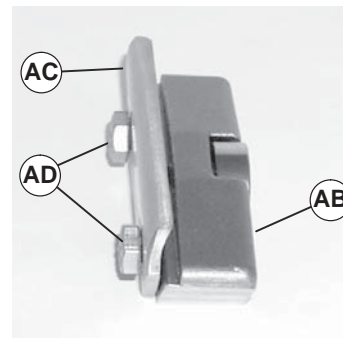

Figure 12
2. Loosely attach clamp plate (Figure 12, item AC) on mounting block (AB) with two screws (AD). Do not tighten screws.